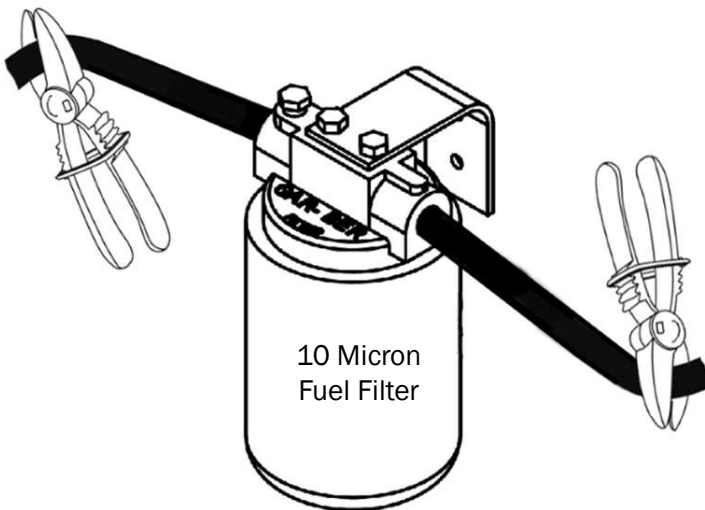

Figure 108
2. Using hose pinch off pliers, clamp off both fuel lines going to the fuel filter. Reference Figure 108.